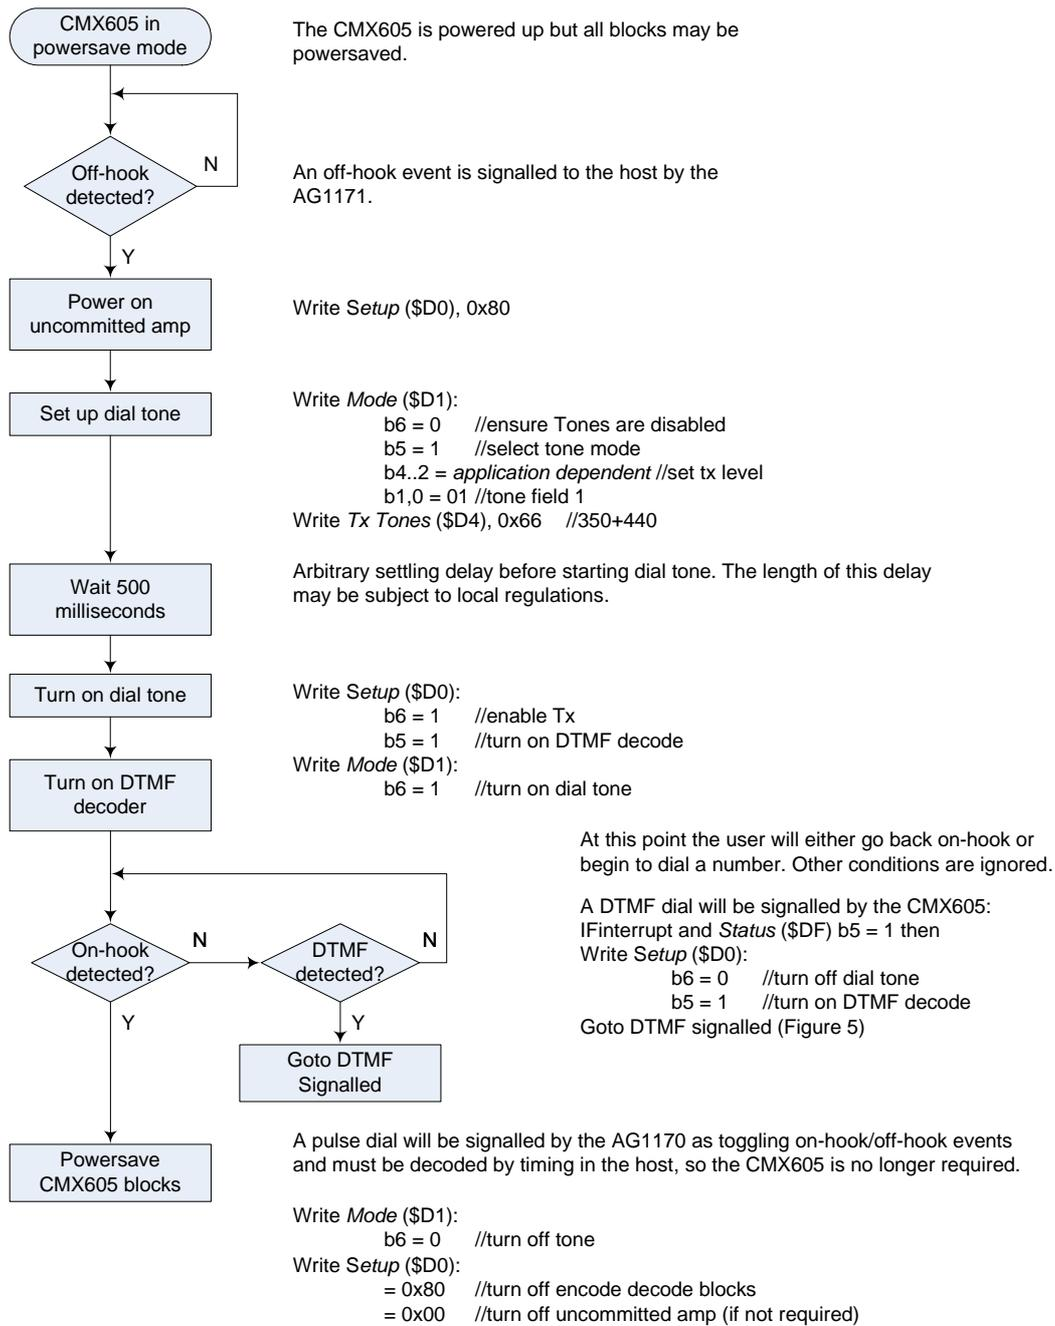

Figure 4. On-hook to off-hook detected
- 3 Figures 4 and 7 both assume that the CMX605 is powered up and a General Reset Command, C-BUS address \$01 (no data), has been issued. The CMX605 will, therefore, be in powersave mode.